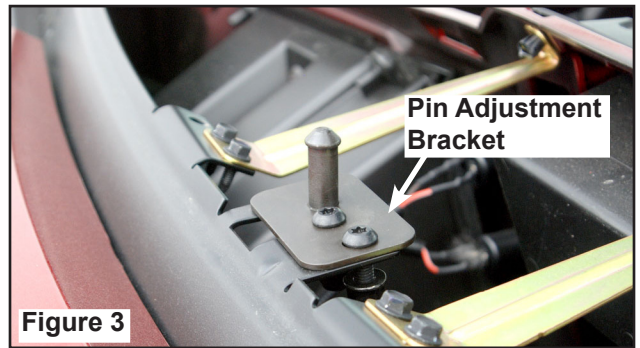

Figure 1
- Remove dash cap by removing the four plastic darts. Figure 1.